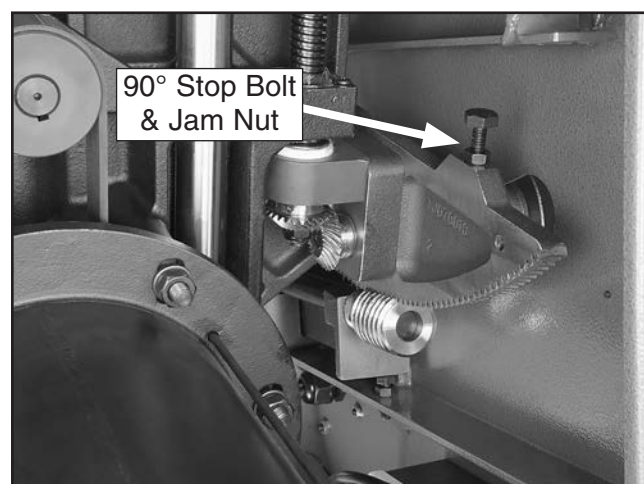

Figure 122. 90° stop bolt and jam nut.
- 5. Open the motor access cover, loosen the jam nut shown in **Figures 122–123**, adjust the stop bolt up or down according to how far off the blade was from 90°, then repeat **Step 3** until the blade stops at 90°.